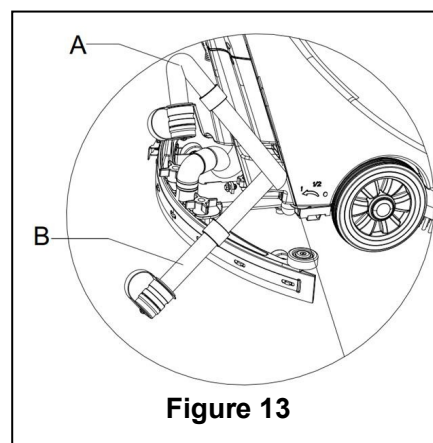

Figure 13
2. By using the squeegee handle (14), lift the squeegee.
4. Grasp the handlebar (2) and gently incline the machine backward until the guide wheel touches the floor. (For docking of the machine please refer to the procedures in the stopping of the machine section.)
5. Take off the draining hose from the fixation clip, bend the top end of draining hose (as shown in **A, Figure 13**), and then open the cover of draining hose, lower draining hose to a low level or on the ground to drain the water. Alternatively, directly place draining hose to a low position or on the ground to make the water outlet face downward (as show in **B, Figure 13**), and then twist open the water draining lid to drain off the wastewater in the tank. After draining is completed, use pure water to cleanse the inside of recovery tank.
When draining the wastewater, the vacuum tube for waste must be folded or lowered to a lower position (as shown in Figure 13 A or B), and then open the lid of the vacuum tube for waste to drain the water. Do not make the outlet of the vacuum tube for waste face upward to drain the water vertically. This is to avoid wastewater spilling onto the operator.